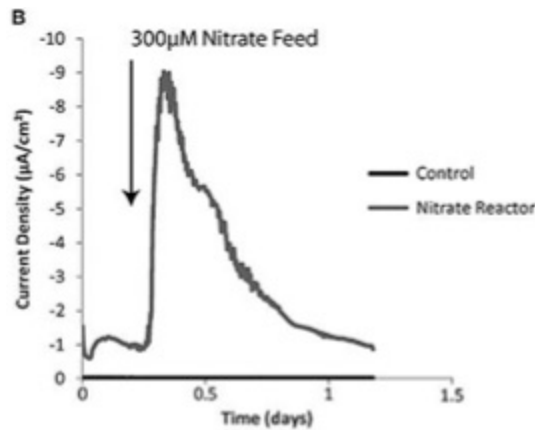

Figure 8. Example chronoamperometry readout (Rowe et al., 2015)
- 11 *Chronoamperometry (Figure 8)*